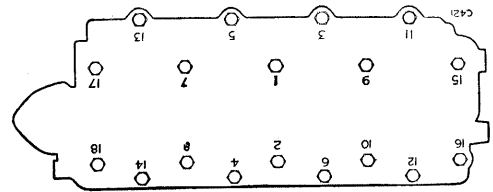

Fig. A-51—Order of tightening cylinder head bolts
5. Tighten down the cylinder head bolts in the order indicated by Fig. A-51. The ½ in. U.N.F. bolts, including those that also secure the rocker brackets, must be pulled down to 65 lb/ft (9,9 mkg) whilst the ⅜ in. U.N.F. bolts securing the rocker brackets only are pulled down to 12 lb/ft (1,66 mkg).